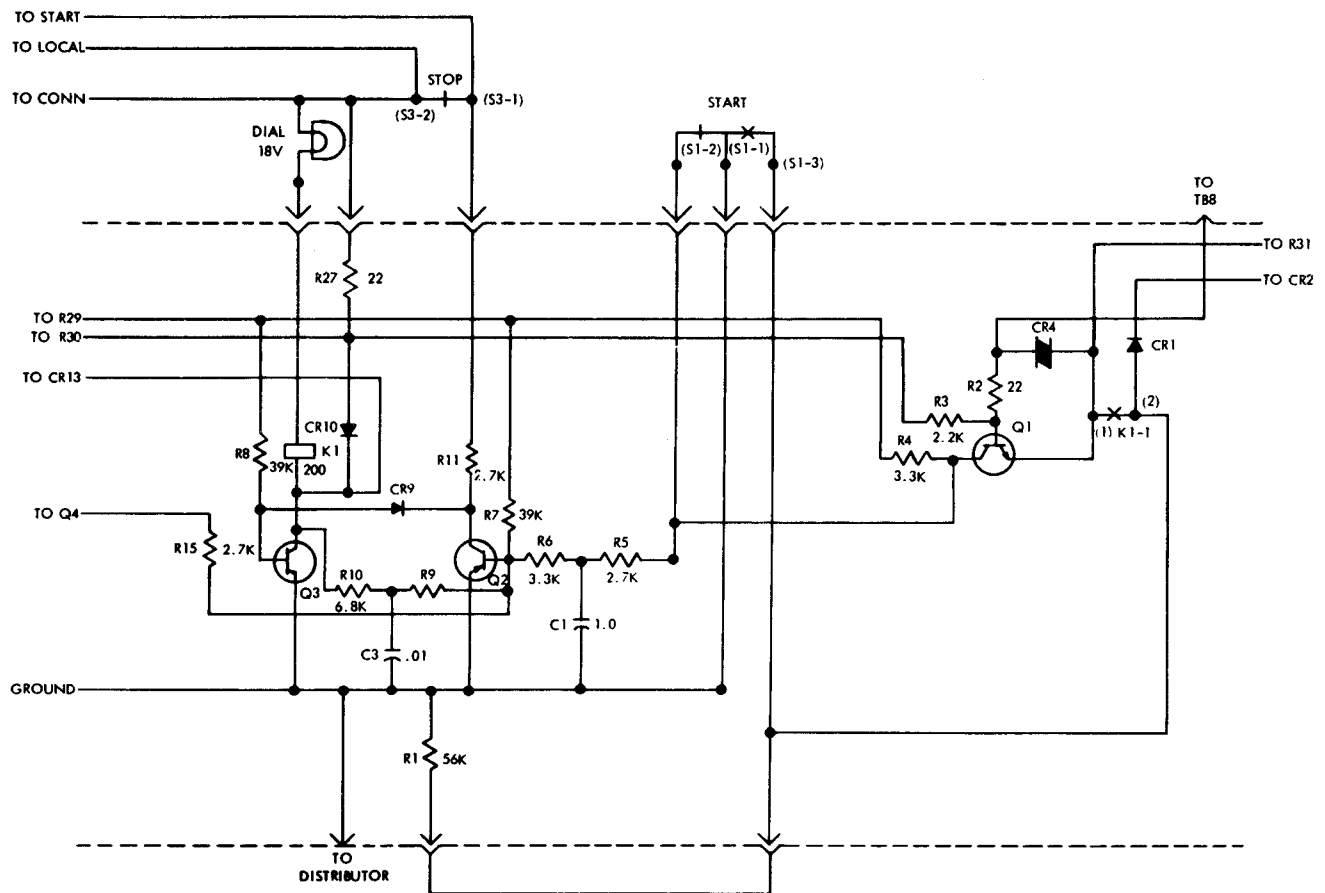

Figure 2 - Proceed-to-Dial Circuit
3.06 The proceed-to-dial circuit (Figure 2), consists of a binary with a line input amplifier. The amplifier consists of transistor Q1 and its associated components, and the binary consists of transistors Q2 and Q3 along with their associated components. The amplifier is connected to the binary through a low-pass filter delay network (R5 and C1) which suppresses signal line noise. The input to the binary, coming from the filter network and passing through R6, will turn on the proceed-to-dial circuit. Control inputs through R15 and the stop pushbutton contacts 1 and 2, are used to turn off the circuit. Operation of the transistors in the proceed-to-dial circuit is as follows: